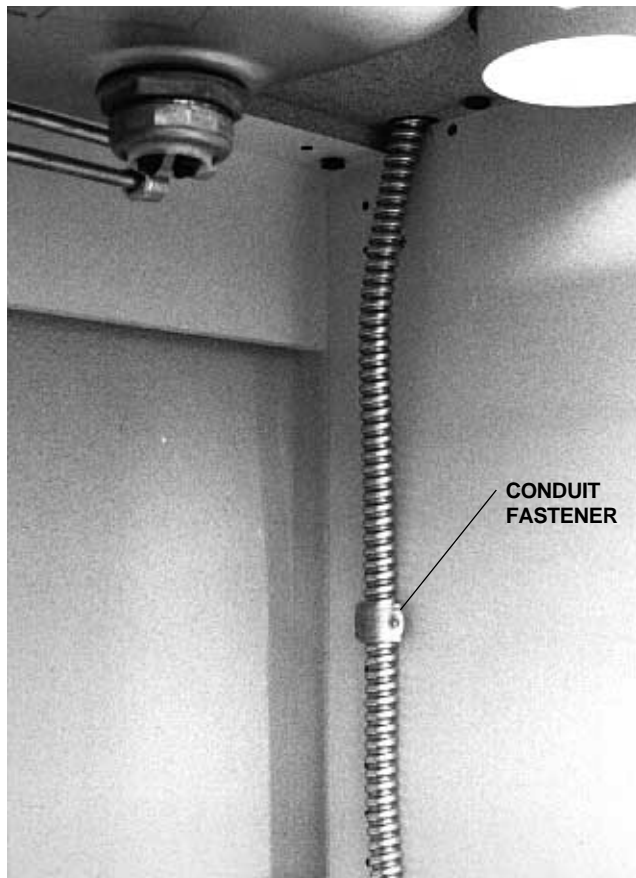

FIGURE 18
4. Align the upper with the previously installed uppers, then tighten the four screws which secure the left and right upper modules to the lower unit. Secure the electrical conduit to the inside of the cabinetry (see Figure 18).